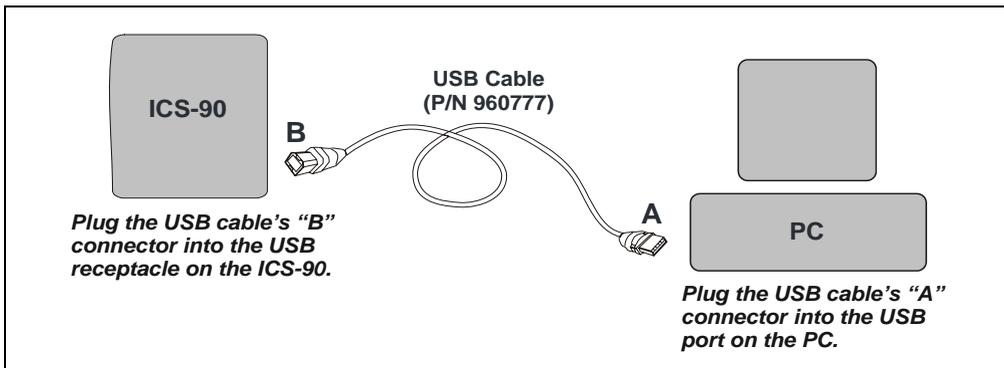

Figure 2-5. Example Connections: One ICS-90 Connected to the Computer
2. Plug the “A” connector of the USB cable into the USB port on the PC (see Figure 2-5).
3. Plug the “B” connector of the USB cable into the USB receptacle on the ICS-90 rear panel (see Figure 2-5).